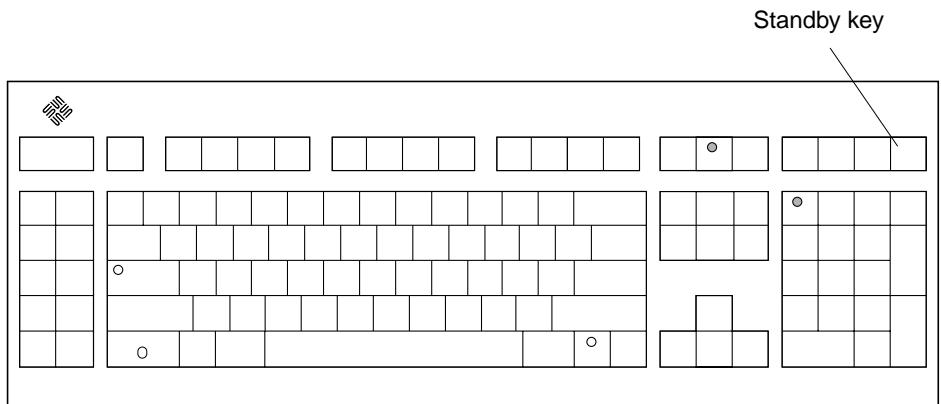

**FIGURE 1-9** Ultra 5 System Power Switch
4. Set the power switch to the on position (FIGURE 1-9).